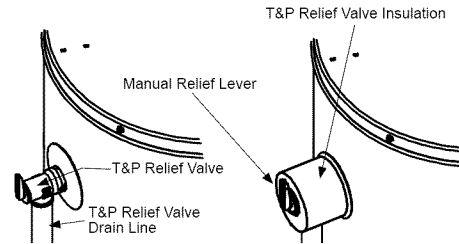

FIGURE 22.
1. Locate the temperature and pressure relief valve on the water heater (also known as a T&P relief valve). See Figure 22.
3. Spread the slit open and fit the insulation over the T&P relief valve. See Figure 22. Apply gentle pressure to the insulation to ensure that it is fully seated on the T&P Relief Valve. Once seated, secure the insulation with duct tape, electrical tape, or equivalent. **IMPORTANT:** The insulation and tape must not block the discharge opening or hinder access to the manual relief lever (Figure 22). Ensure a discharge pipe is installed into the T&P valve discharge opening per the instructions in this manual.